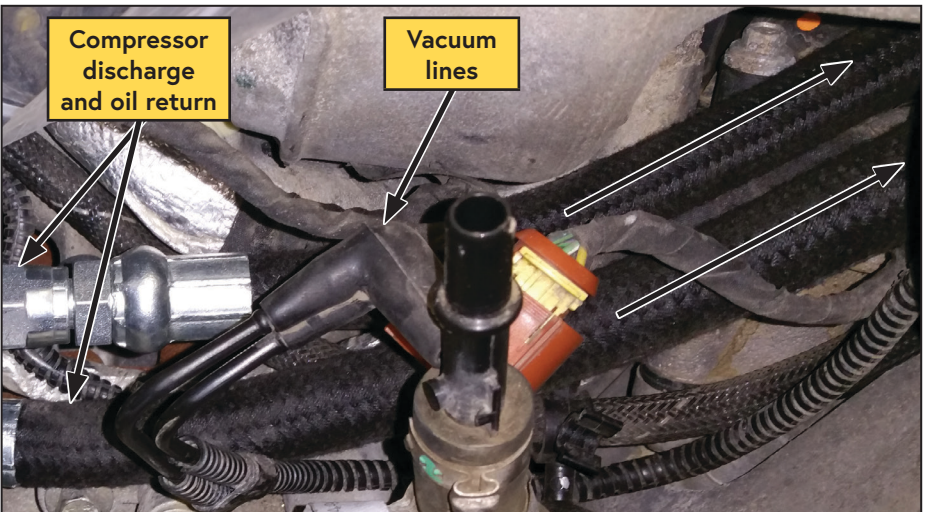

Figure 24 — Routing the hoses from the compressor
- Route the 1/2 in x 25 in discharge hose, the 3/8 in x 240 in oil return hose, and the 1/4 in x 240 in PTFE tube under the OEM intake manifold (Figure 24).